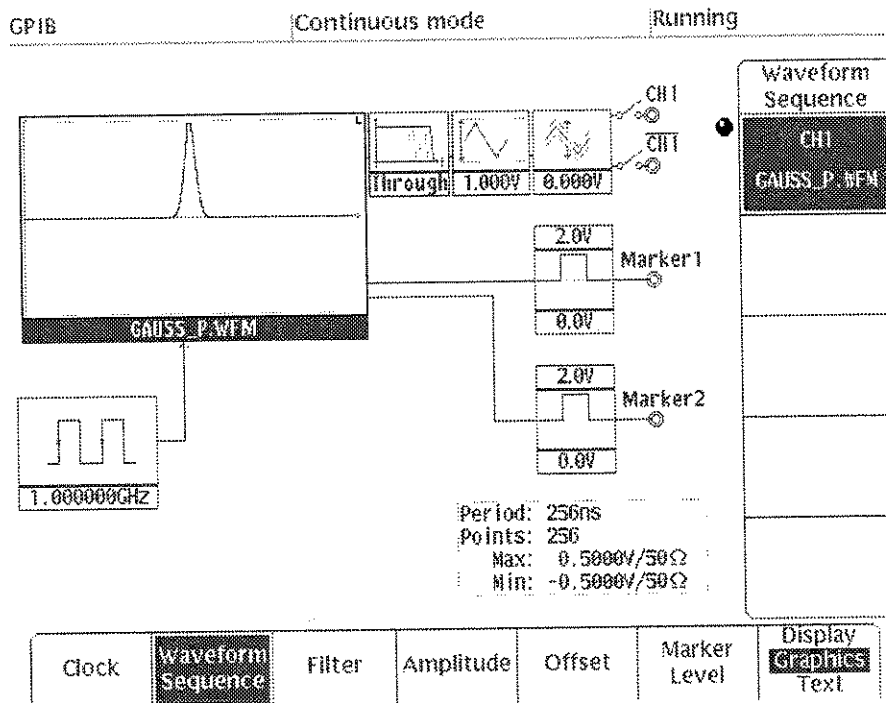

Figure 2-20: GAUSS_P.WFM File Output Parameters
- **Step 10:** Select O.K. from the sub-menu. The selected file will be confirmed and the output conditions will be automatically set. Figure 2-20 shows the **SETUP** menu with the file **GAUSS_P.WFM** selected.